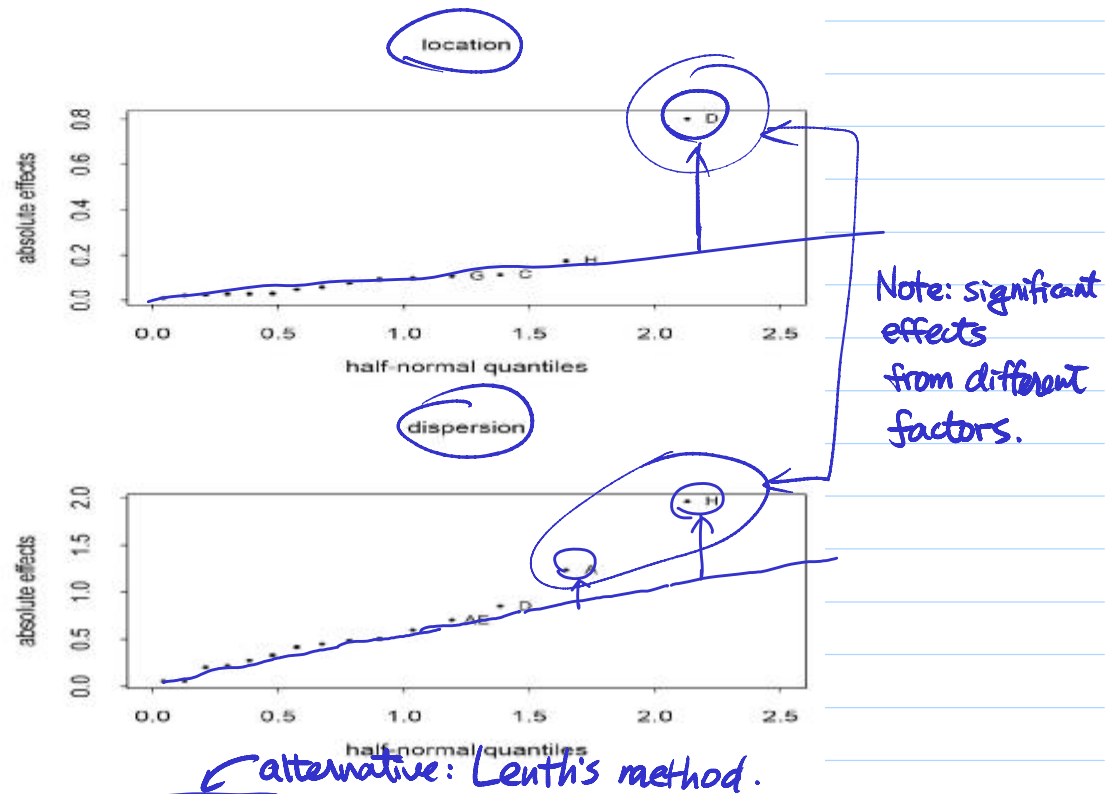

Figure 2: Half-Normal Plots of Location and Dispersion Effects, Layer Growth Experiment
- From the \bar{y}_i and $\ln s_i^2$ columns of Table 5, compute the factorial effects for location and dispersion respectively. (These numbers are not given in the book.) From the half-normal plots of these effects (Figure 2), D is significant for location and H , A for dispersion.